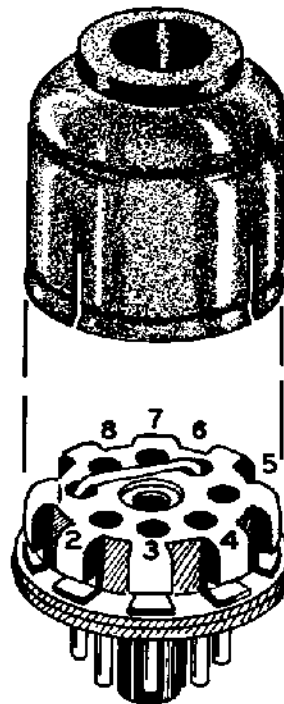

Figure 1
- ( ) Locate the octal plug and octal plug cap. Referring to Figure 1, connect a bare jumper wire between lugs 1 (S-1) and 6 (S-1). Now install the octal plug cap.